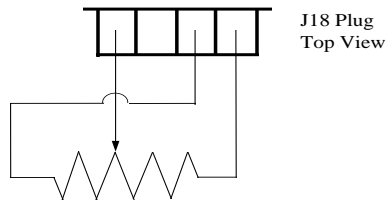

Figure 2. Adding a 10K pot to DATA connector J18
17) You can stop modifying at this point if you don't care about using your radio for packet, and proceed to step 19. Otherwise, you need to install the small 10K pot across the J18 connector plug you saved. This task replaces the Data pot just disconnected above. Refer to Figure 2 below for the next step.